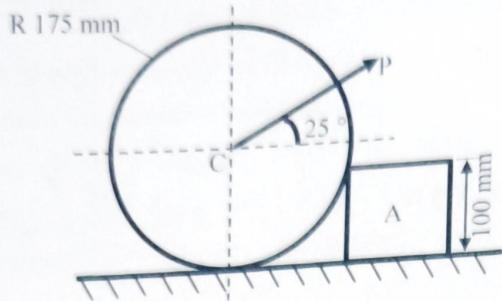
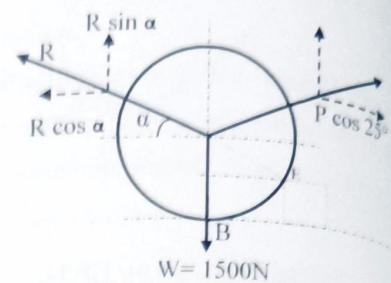

Fig 2.8
Fig 2.9
- 4) The weight of roller is 1500 N. 'P' is the minimum force required to start the roller over the block. Draw the FBD for given fig 2.8. (Ans: Fig 2.9)